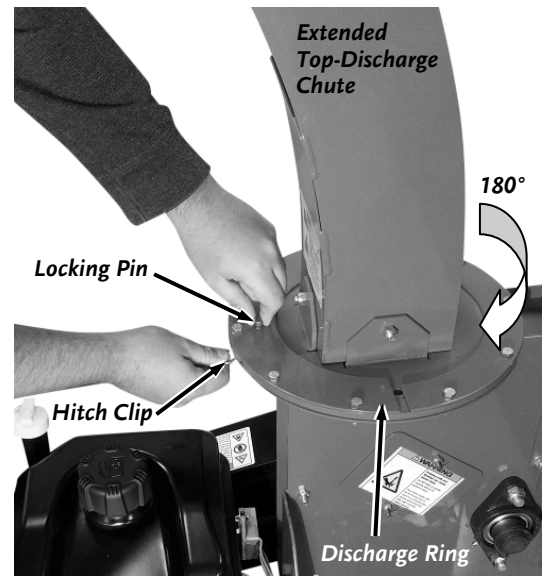

Figure 67
1. Pull the Hitch Clip and remove the Locking Pin (**Figure 67**).
1. Pull the Hitch Clip and remove the Locking Pin from the Discharge Ring (**Figure 67**).